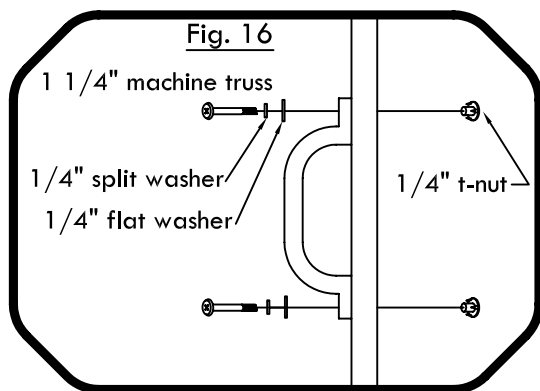

Fig. 16
- Step 5:** Attach the Hand Grips to the drilled Wall Slats with 1 1/4" machine truss screw with 1/4" split washer and 1/4" flat washer through the grip and slat and into a 1/4" t-nut on the back. You must hammer the t-nuts into the drilled holes before inserting the machine truss screw. (see Fig. 16)